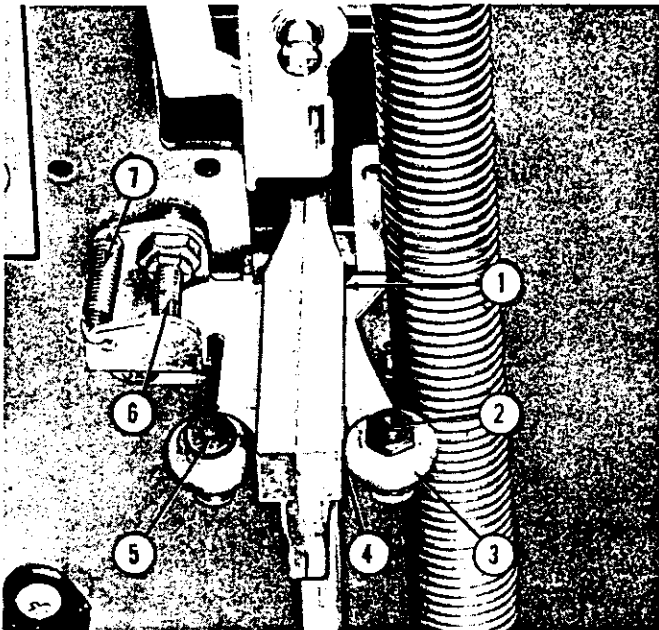
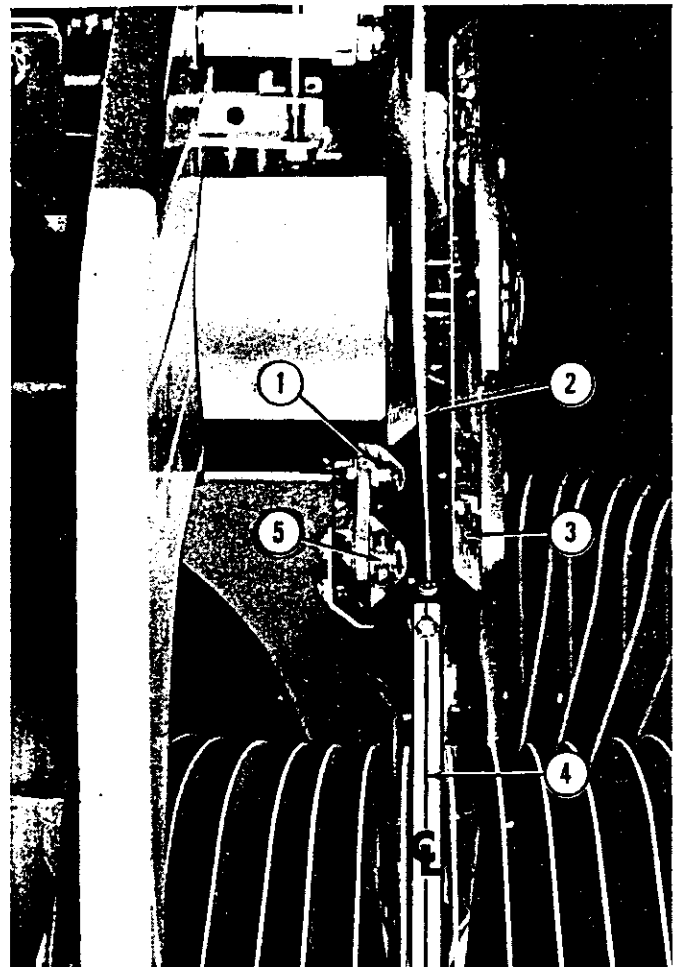

Fig. 75. RECORD LIFT ARM CENTERING ADJUSTMENTS
Fig. 76. RECORD LIFT ARM CENTERING ADJUSTMENTS
k. Record Lift Arm Centering Adjustment. (Figs. 75 and 76)
of these two brackets one guide roller is mounted on a fixed stud (Item 5, Fig. 75) and the other is mounted on an eccentric stud (Item 2). Thus, the roller on the eccentric stud may be adjusted to bring the rollers into engagement with the ramp (Item 1) on the lower end of the lift arm.
(1) With the ramp (Item 1) on the lower end of the record lift arm between the two rollers, in the play position, set and tighten the eccentric stud to provide free passage of the ramp between the rollers with .005" max. clearance (Item 4) between the ramp and the rollers.
(2) With a record clamped on the turntable and the corresponding lift arm in its raised position, (Fig. 76) set the adjusting screw (Item 6, Fig. 75) for the centering roller and bracket assembly so that the guide tips of the record lift arm are equally spaced on either side of the record as shown in Figure 76.